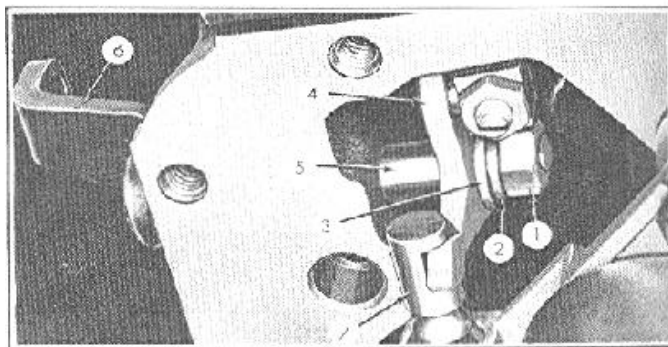

FIGURE 51
4. Disconnect the selector control rod at the selector control shaft outer lever (6), Figure 51.
3. Turn the selector control shaft outer lever (6) Figure 51, so that it points toward the top of transmission and align the slot of the inner lever (4) with the flat on the control shaft (5) and install the inner lever (4) on the control shaft (5). Make sure that the inner lever (4) is in the slot of the selector valve (7).
4. Install the flat washer (3), lock washer (2), and nut (1) and tighten the nut securely.